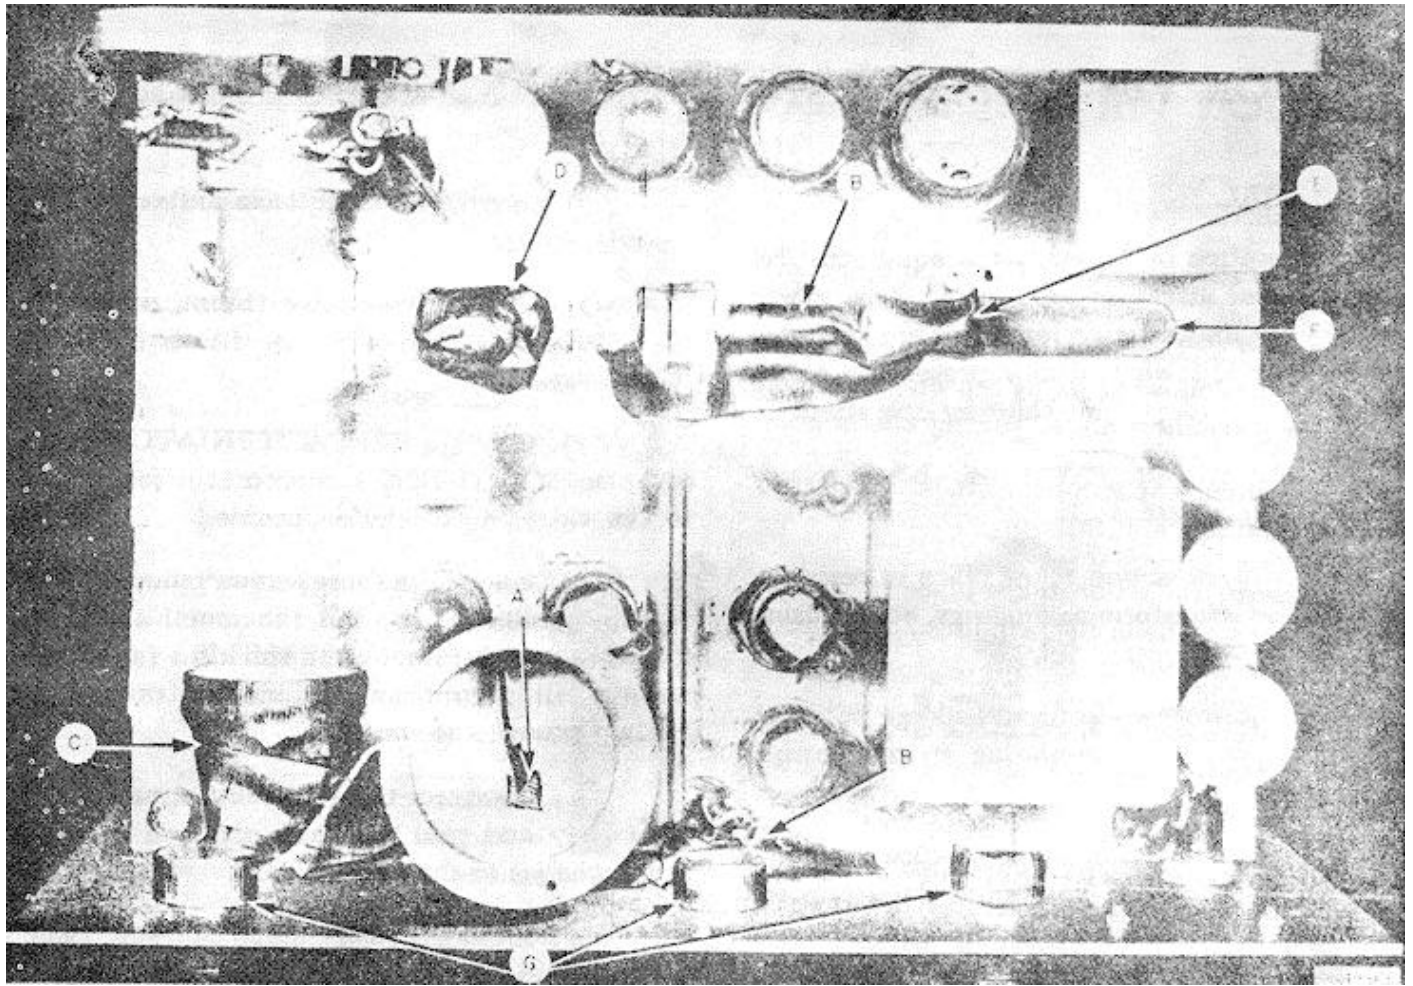

Figure 12. Masking, top of chassis
(1) The top side of the chassis (fig. 12) may be coated by either the brush or spray method.